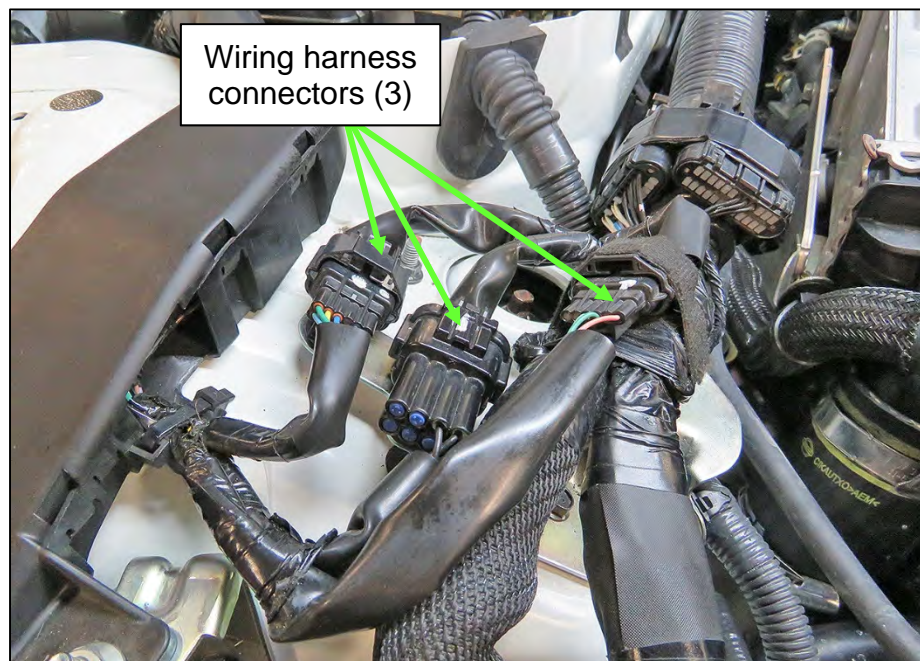

Figure 126
192. Reconnect the three (3) wiring harness connectors shown in Figure 126.